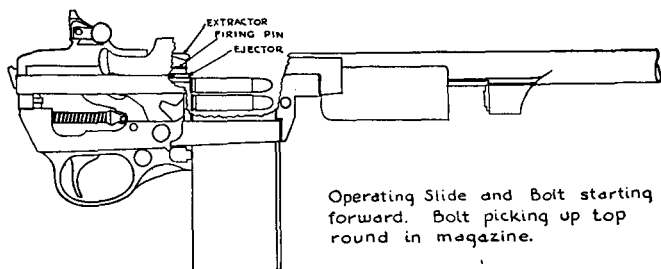

FIGURE 12.—Start of forward movement.
b. Forward movement.—(1) As the bolt moves forward, actuated by the compressed operating slide spring, the lower front face of the bolt comes in contact with the base of the top cartridge and slides it forward into the chamber (see fig. 12). The hammer, under pressure from the hammer spring, rides on the bottom of the bolt and tends to follow it, but is caught and held by the front end of the sear, which engages in the rear notch on the hammer. When pressure on the trigger is released, the hammer spring imparts a slight forward motion to the hammer, which pivots just enough to push the sear slightly backward and cause its rear end to ride over the trigger lip, completing the cocking action. If,